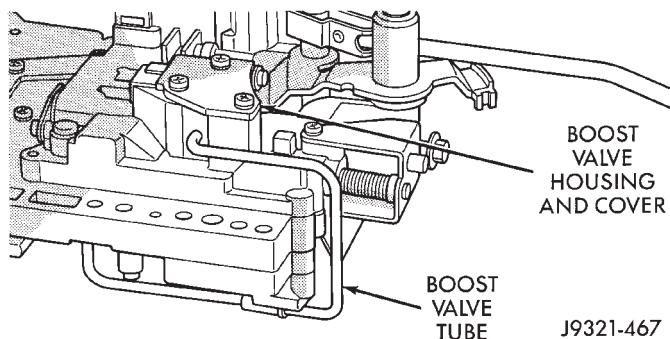

Fig. 99 Boost Valve Cover Location
(11) Remove boost valve cover (Fig. 99).